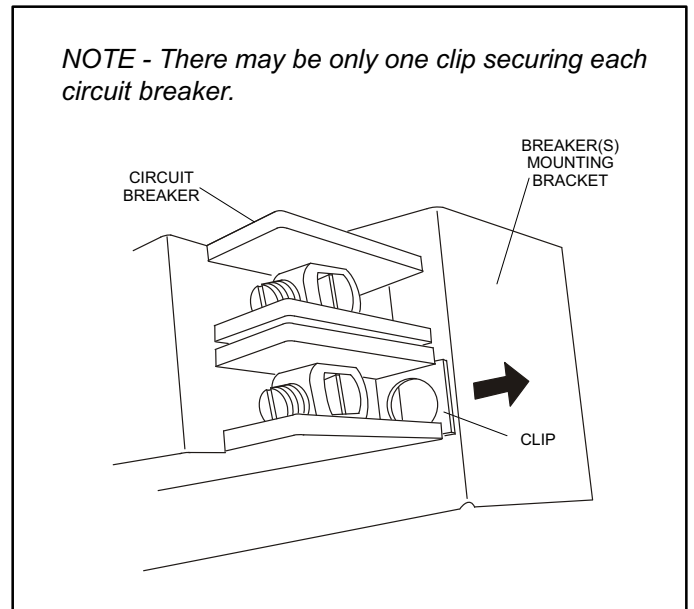

Figure 15. Circuit Breaker Clip
2. Locate the one clip which is located on the right side of each breaker (see figure 15). The clip secures the circuit breaker to the mounting bracket. Pull the clip to release the breaker from the mounting bracket.